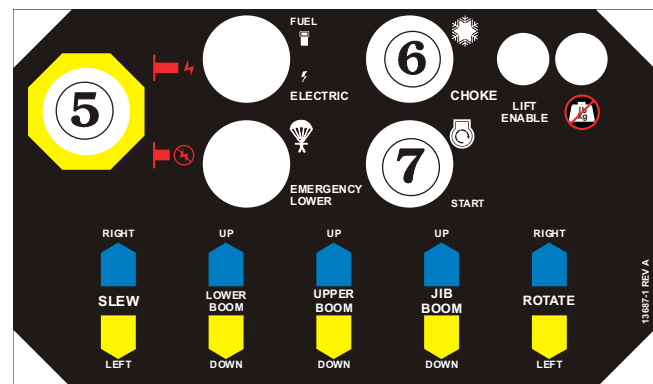

Figure 10.21 - LV Machines with Insulated Fibreglass Platforms
5. If the engine is at ambient temperature (cold), hold the **Choke Switch ⑥** (see Figure 10.21) down throughout the next step.